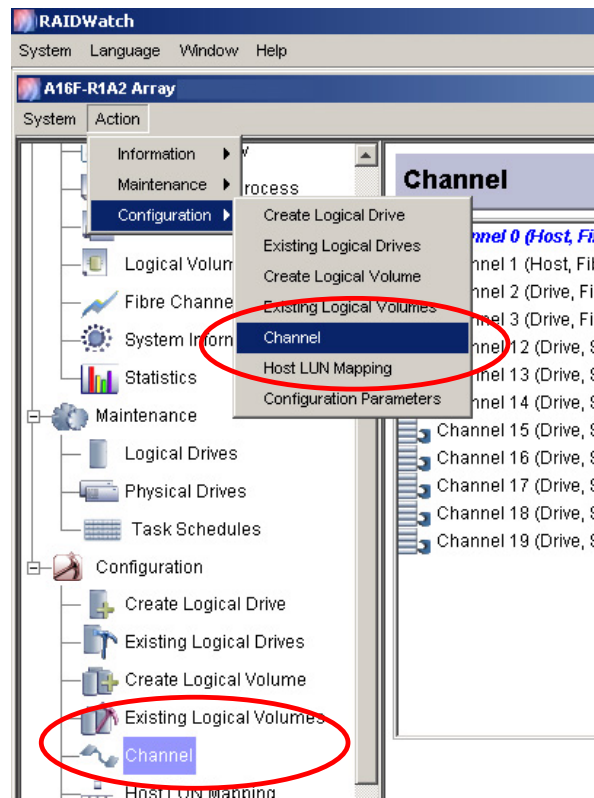

Figure 8-1: Accessing Channel Configuration Window
To access the **Channel** window, use either the command from the Action menu or select the **Channel** icon from the navigation panel. (See *Figure 8-1*).
Step 1. Single-click under the **Channel** window to select a corresponding channel. Channel icons are displayed in the left-side panel of the configuration window. The Channel Settings configuration will appear as two separate pages on the right side: **Parameters** and **ID**. (See *Figure 8-1*).